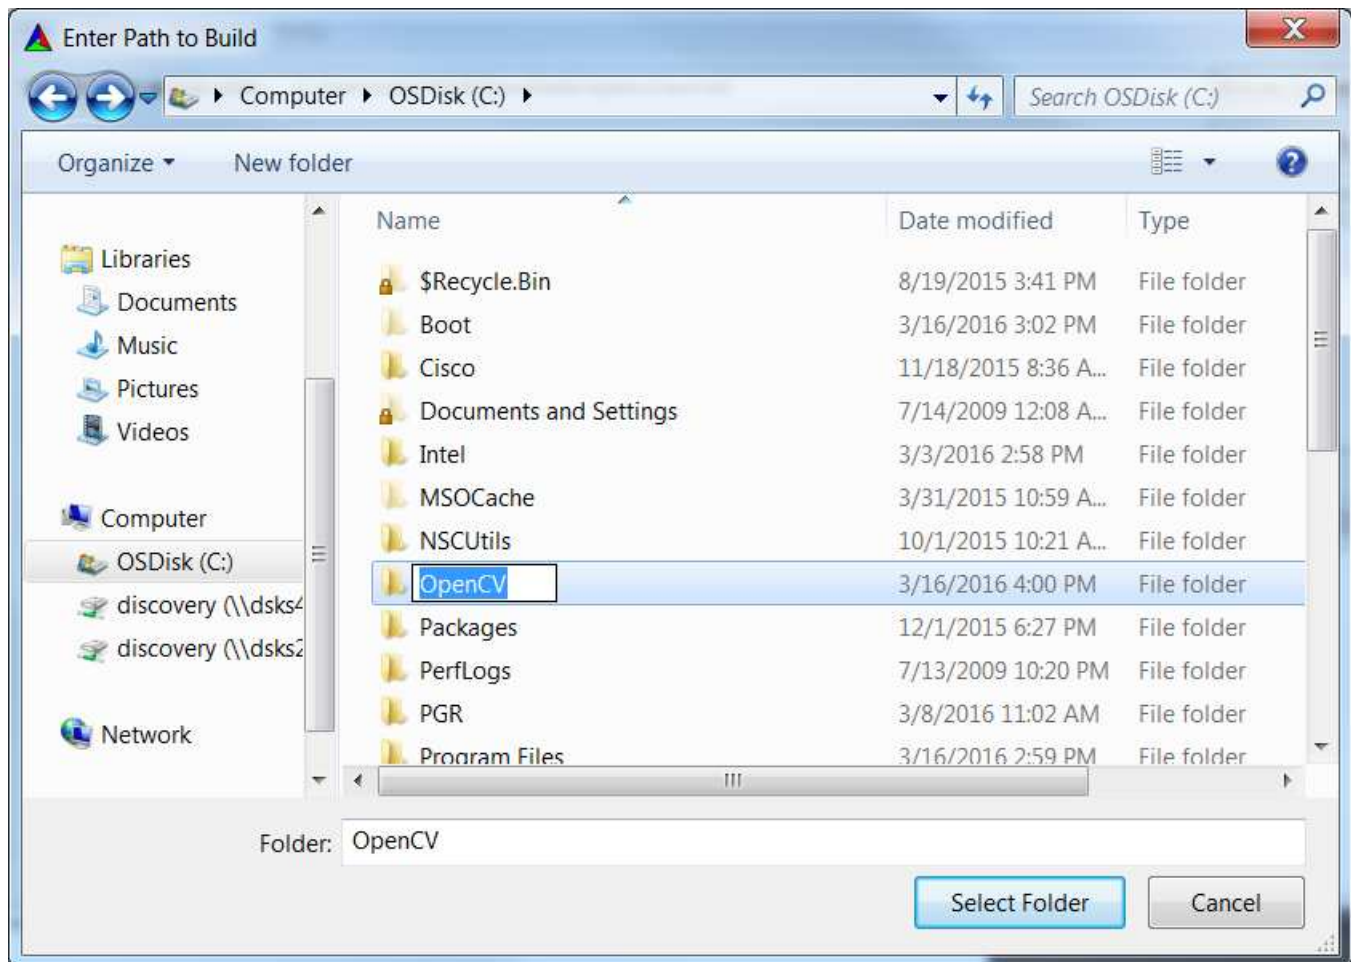

Figure 26. Build New Folder
- Click "Browse Build" and create a new folder for the built OpenCV files as shown in Figure 26.